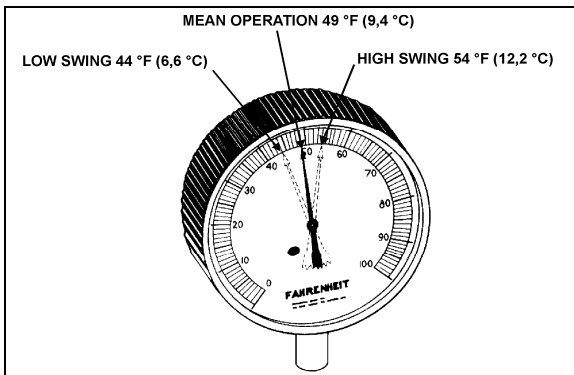

FIGURE 37: HIGH & LOW SWING TEMPERATURE AT REMOTE BULB²²⁰⁴⁷
6. Check approximately 5 readings of pressure at 2-minute intervals and convert to temperature using the temperatures & pressures table (page 35). Likewise check the temperature reading at the remote bulb at the same 2-minute intervals and record the low and high swing readings of the needle (refer to Fig. 37).
Example of readings taken at fig. 37: